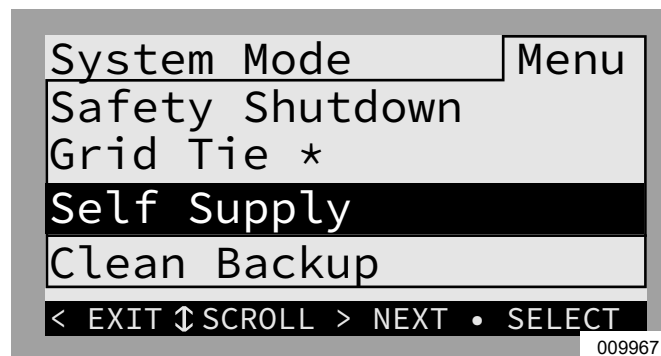

Figure 6-4. Selecting System Modes (2 of 3)
3. See Figure 6-4. Use the up and down arrows to highlight the desired mode and press the center button to select.